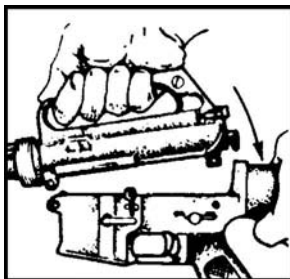

Figure 071-311-2025-35. Joining the upper and lower receivers
- m. Engage the receiver pivot pin (figure 071-311-2025-36).